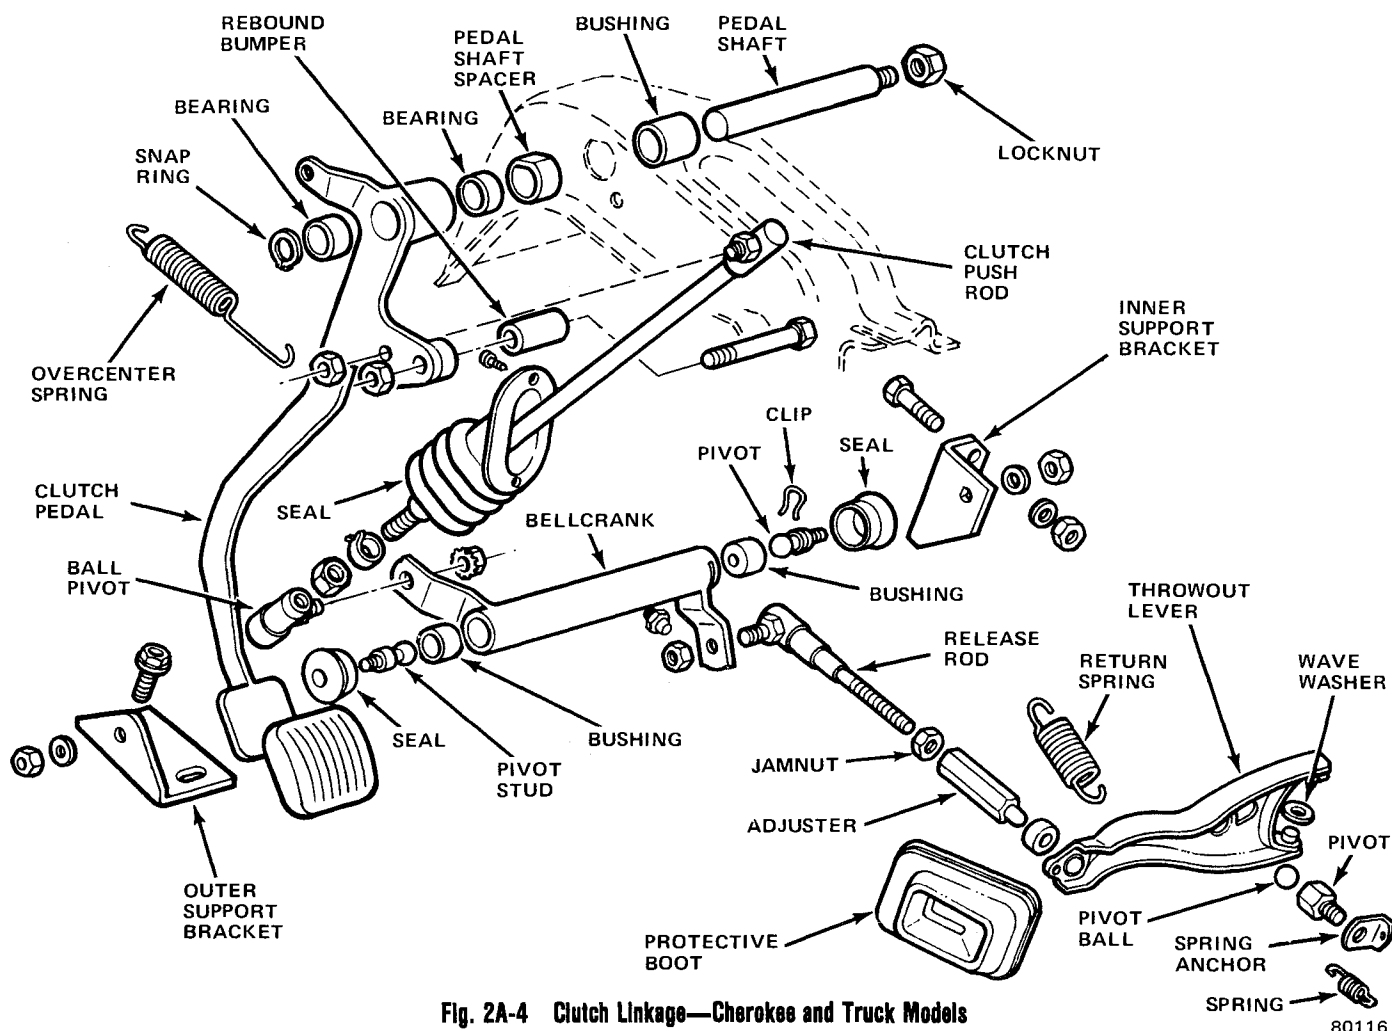

Fig. 2A-4 Clutch Linkage—Cherokee and Truck Models
(3) On Cherokee and Truck models, adjust clutch push rod lower ball pivot assembly in-or-out on push rod (fig. 2A-4) until bellcrank inner lever is parallel to front face of clutch housing. Lever should be slightly forward from vertical.
(4) Loosen release rod adjuster jamnut.
(5) Turn release rod adjuster in or out to obtain specified clutch pedal free play.
(6) Tighten release rod jamnut.
(7) Lower vehicle.